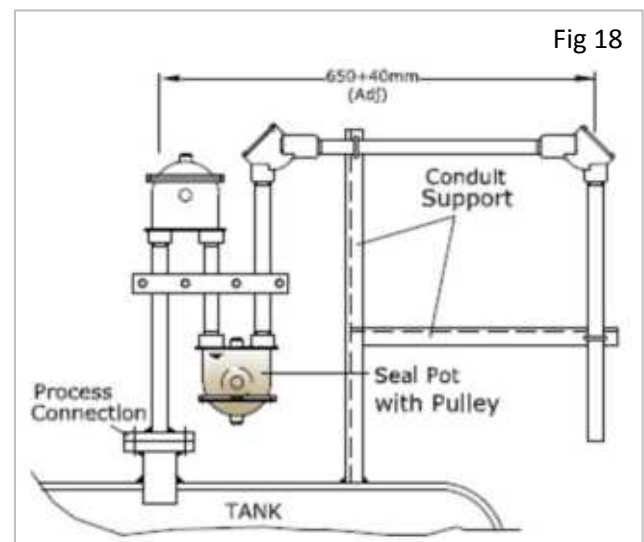

Fig 18
- Seal pot is supplied in assembled condition with protection conduit assembly (fig 18).